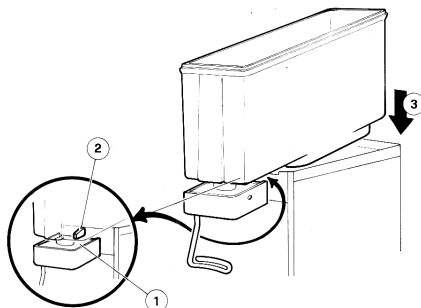

figure 8
- 4 Fit the bowl gasket to the evaporator. Note: the largest brim of the gasket must face against the drip plate (see figure 8).
CADDY 5/2 - 5/3 - 5/4: be sure first that the faucet top (1) is under the tooth jutting (2) out of the drip plate (see figure 8).